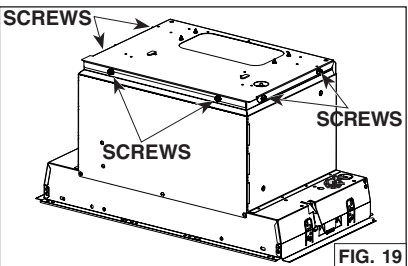

FIG. 19
7. Remove the 6 screws (2 per side and 2 in front) retaining the blower support plate to the top of the unit (FIG. 19). Carefully lift out and set aside the blower with its support plate. The blower will be reinstalled later in the unit.